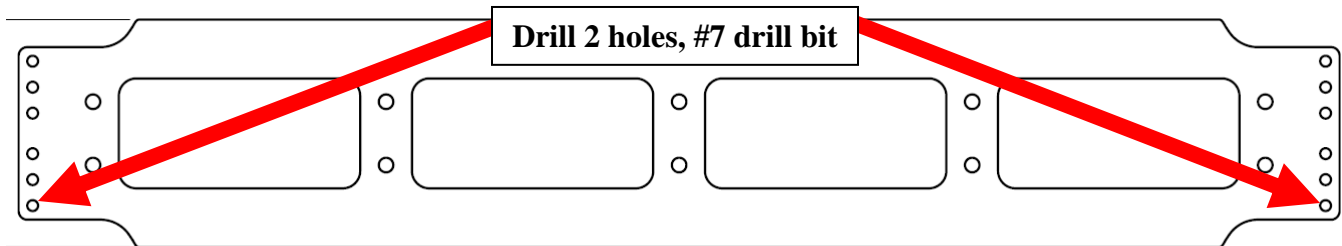

Figure 2: Hose bracket, drill 2 holes
- b) Reinstall CAC tube P/N: (473375) at flex connector clamp points, refer in figure 2.